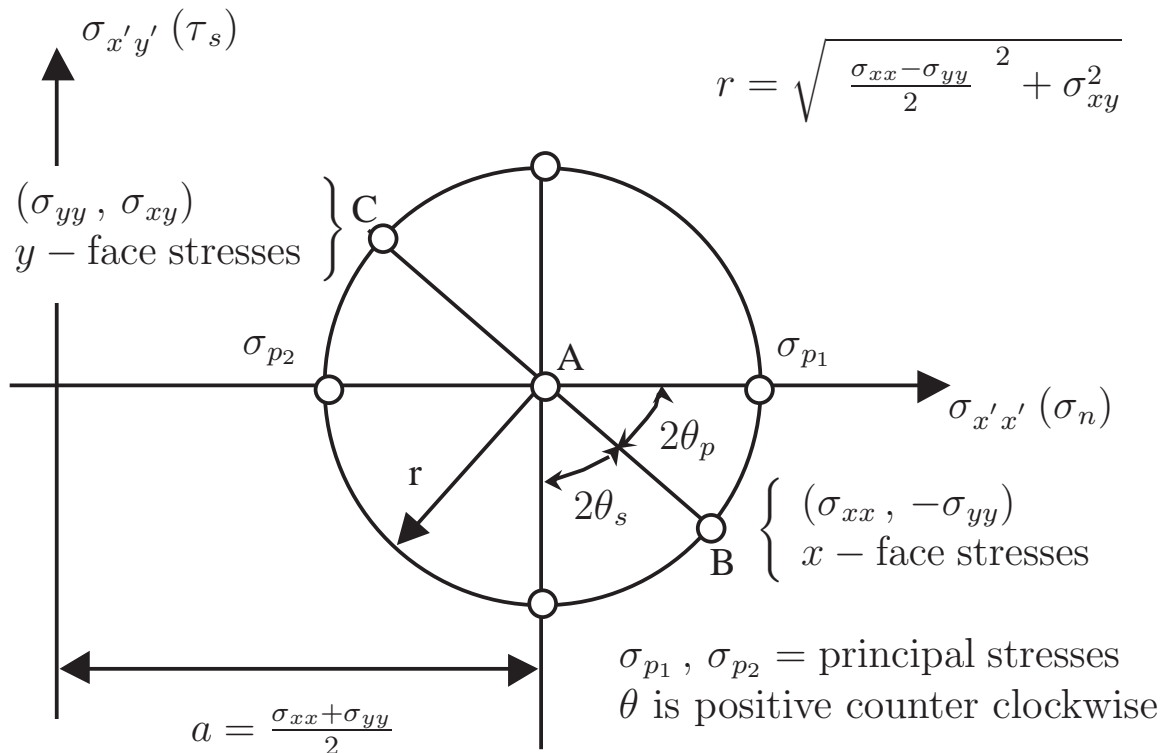

Figure 5.7: Mohr's Circle Parameters
6. **Identify the relative orientation between x -face (B) and the principal planes.** Note that point B corresponds to the stresses on the x -face, i.e. $\theta = 0^\circ$ in the real world. For example, in the above $2\theta_P = \tan^{-1}\left(\frac{\sigma_{xy}}{\sigma_{xx} - \sigma_A}\right)$ CCW from the x -face (from line A-B on Mohr's Circle). Note: the writing of a specific formula is discouraged. It is far simpler (and usually less mistakes) to look at Mohr's circle and apply trigonometry to calculate the angle.
7. **Identify the relative orientation between x -face (B) and the maximum shear planes.** From Figure 5.7, $2\theta_P + 2\theta_S = 90^\circ$. Thus $\theta_S = 45^\circ - \theta_P$. From Figure 5.7, it is easier to identify the principal shear stress planes as being -45° (real world) from the principal normal stress plane (point B, bottom of circle) and $+45^\circ$ from the principal normal stress plane (top of circle). Note that the plane of max shear stress will generally have non-zero normal stress!